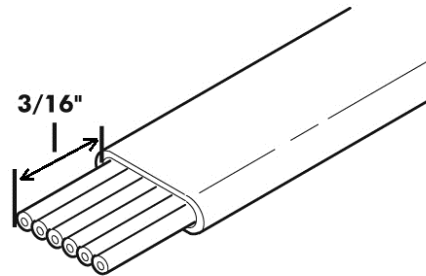

FIGURE 18: Stripped CA Cable
5. The stripped insulation should expose approximately 3/16" of wire (Figure 18).